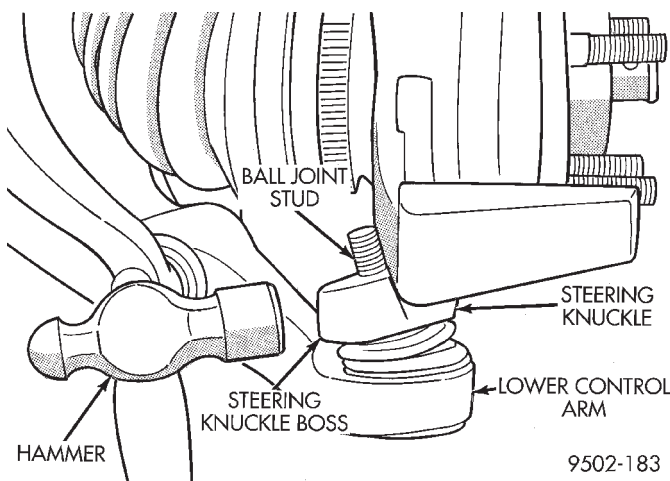

Fig. 40 Separating Ball Joint Stud From Steering Knuckle
(14) Turn steering knuckle so the front of the steering knuckle is facing as far outboard in the wheel well as possible. Using a hammer strike the boss on the steering knuckle, (Fig. 40) until steering knuckle separates from stud of lower ball joint.